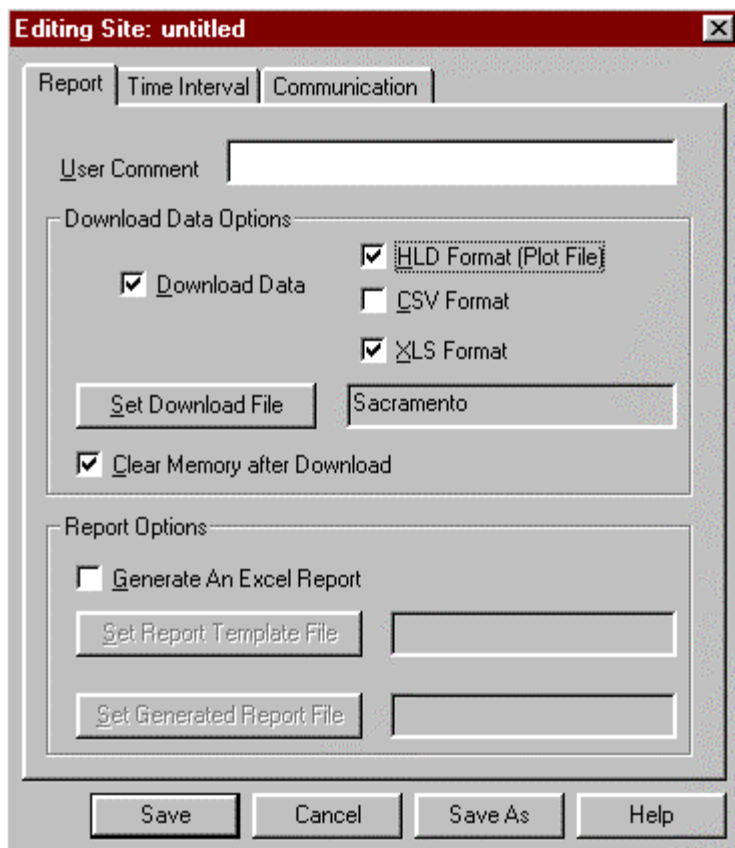

Figure 5.2.2a Report Tab for creation of a new site, Example 5.2
- 4) Create the new site “Sacramento”. Figures 5.2.2a through 5.2.2d illustrates creation of the site “Sacramento”